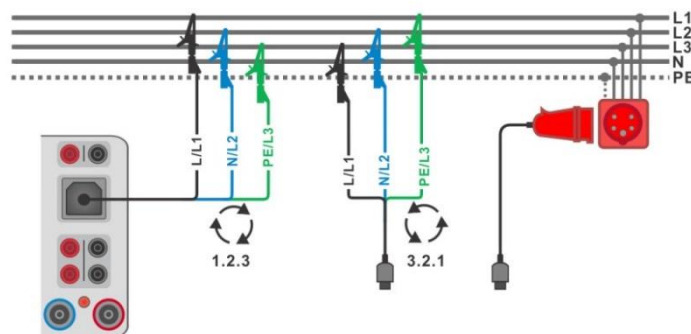
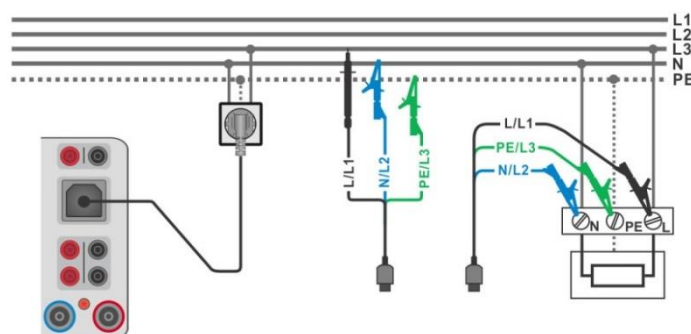

Figure 6.61: Connection of 3-wire test lead and optional adapter in three-phase system
Figure 6.62: Connection of Plug test cable or 3-wire test lead in single-phase system
- ▶ Connect 3-wire test lead or Plug test cable to test object (see **Figure 6.61** and **Figure 6.62**).